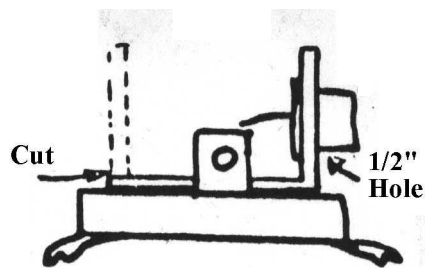

FIGURE 2
5. With a hacksaw, cut off one side of the coil bracket and continue to cut through the base of the coil and its core. See Figure 2.
6. In the remaining side of the bracket, drill a hole starting with a 1/4" bit and work up to 1/2". This is so the hole will be round. See Figure 2.